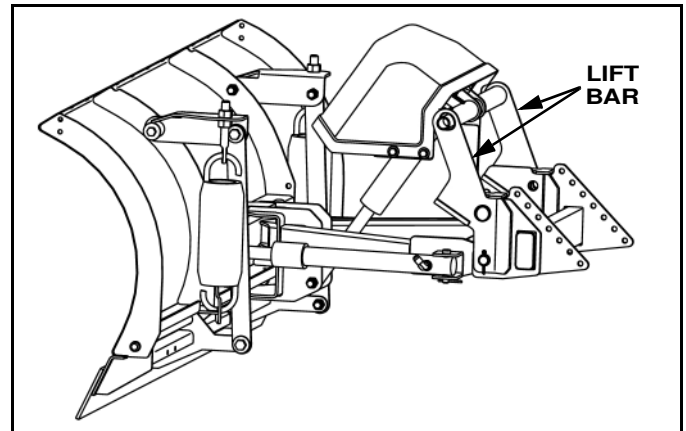

Figure 1-14
5. Rotate lift bar forward by pressing up function on controller. (See Figure 1-14).